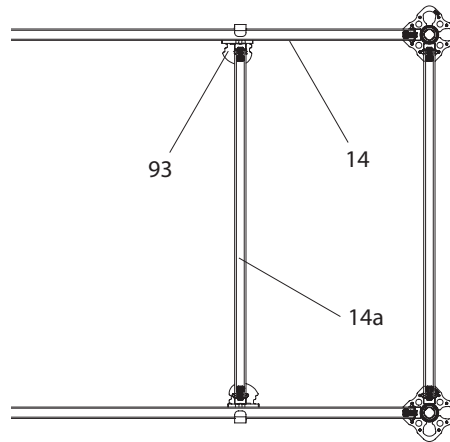
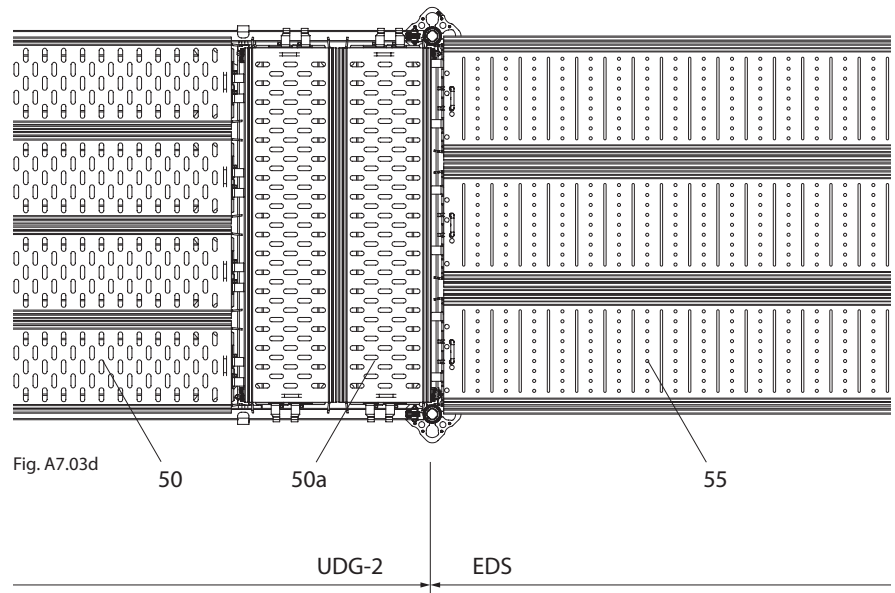

Fig. A7.03c
Fig. A7.03d
If Steel Decks UDG and EDS are used within a system in the longitudinal direction, a transition area must be installed. (Fig. A7.03c)
1. In the last bay in which Steel Deck UDG-2 is installed, install two horizontal ledgers (14) in bay length.
2. Install a Horizontal Ledger (14a) on 2 Ledger-to-Ledger Couplers UHA (93). Distance to frame column 50 cm. (Fig. A7.03c) Do not tighten the wedges yet.
3. In this bay, install the Decks UDG-2 (50) 50 cm shorter than the bay length, e.g. 250 cm instead of 300 cm.
6. Install Decks EDS (55) in the following bay. (Fig. A7.03d)